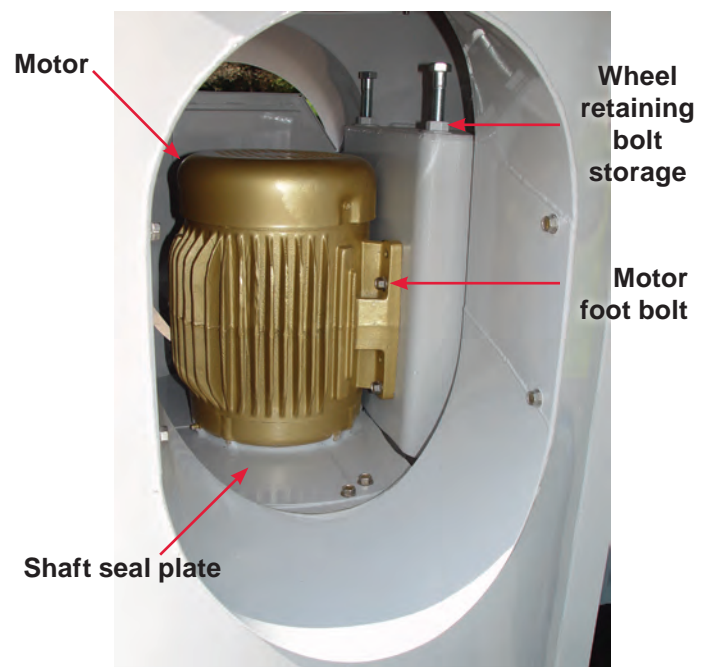
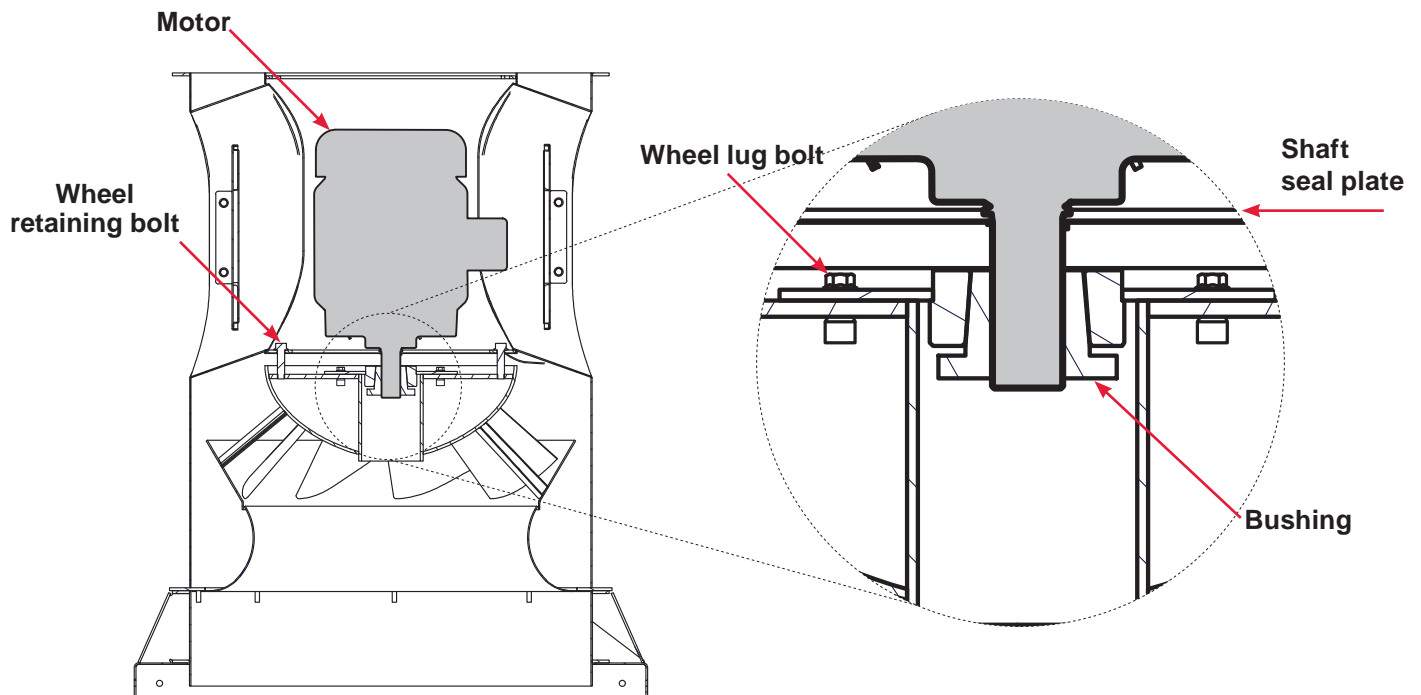

Figure 1: Close-up photo of the bifurcated motor compartment.
Figure 2: Detailed drawing of motor compartment.
2. Locate the shaft seal plates (Figure 1). Remove the bolts and remove the seal plate in sections.
3. Once the shaft seal plates are removed the (2) wheel retaining holes will be exposed. Remove the (2) wheel retaining bolts (Figure 1), that are located on top of the motor support. Install them in the wheel retaining holes until they are flush with the housing panel slightly supporting the wheel as shown in (Figure 2). **NOTICE! It is important that you do not over-tighten the retaining bolts as this may bind the motor bearings.**
3. Locate the shaft seal plates (Figure 1). Remove the bolts and remove the seal plate in sections.
4. Support the old wheel inside the housing and remove the self-aligning hub hold-down bolts (Figure 2).
6. Install the new wheel with hub attached, less bushing by supporting the new wheel until held in place using the (2) wheel retaining bolts (Figure 1) that are located on top of the bearing support, install them in the wheel retaining holes and align the wheel in the proper location as shown in Figure 2.
9. Adjust the wheel using the (2) wheel retaining bolts (Figure 1) to achieve proper wheel/inlet overlap and tighten the bushing hold-down bolts to the proper torque. Refer to Wheel-to-inlet Clearance on page 3 in the QMX IOM manual and trim balance as necessary (0.785 in/sec max).
10. Reinstall the shaft seal plates (Figure 1) and shaft seal (Figure 1).